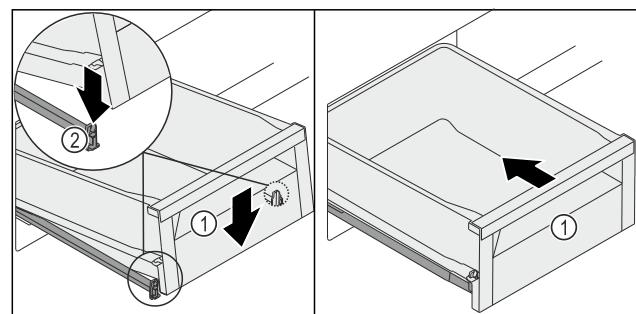

Fig. 136
- ▶ Lower the drawer Fig. 136 (1) at the front so that the drawer slides into the clamp Fig. 136 (2) on the left and right.
- ▶ The drawer Fig. 136 (1) locks in audibly.
- ▶ Push in the drawer Fig. 136 (1).